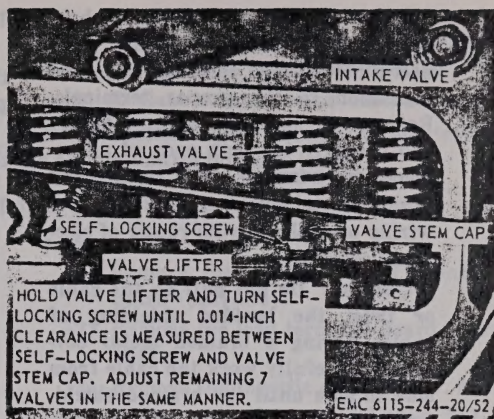

Figure 52. Valve, adjustment.
- e. Refer to figure 52 and adjust the valves.